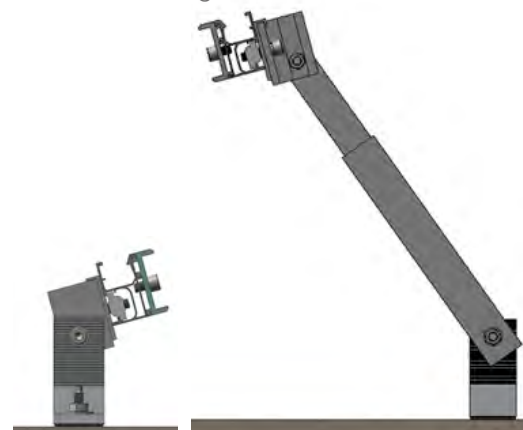

Figure 5.4B
5.4.2 After confirming the position of rail, fasten with Tin Interface or Front and Rear Leg, as shown in Figure 5.4B.